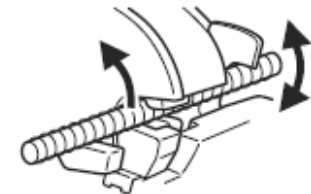

Fig. 4
2. Removing the rebar during cutting operation (Fig. 4)
If the switch trigger is released in the middle of cutting, the cutter can come to a stop at a halfway position, jutting the rebar in the unit. When this occurs, you can either pull the switch trigger again and cut off the rebar, or you can free the rebar by bringing the upper cutter back up to the home position by carrying out the following procedure. (Fig. 4)